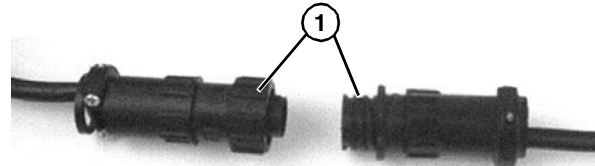

Figure 57
- For variable speed motor, unplug cord at disconnect (**Figure 57, item 1**).